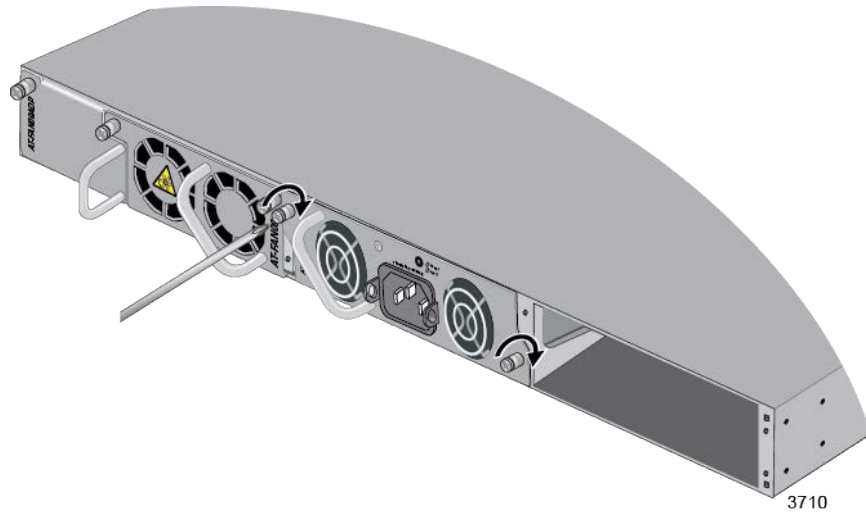

Figure 37. Tightening the Captive Screws on the Power Supply
6. Secure the power supply to the chassis by tightening the two captive screws with a cross-head screwdriver. Refer to Figure 37.